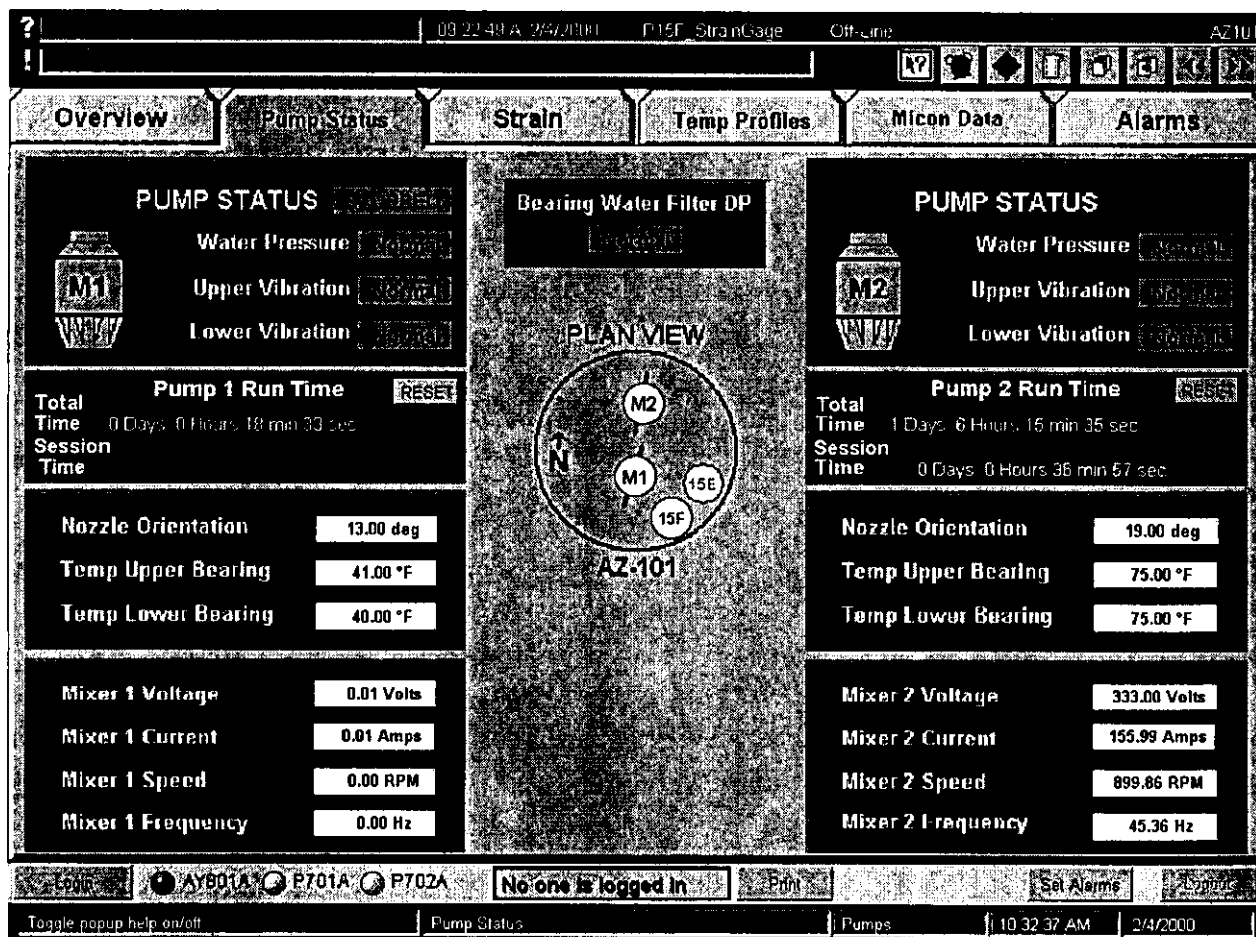

FIGURE 5
- "PUMP STATUS" (Figure 5)
This screen (Figure 5) shows Mixer Pumps M1 and M2 status. The primary data available are: